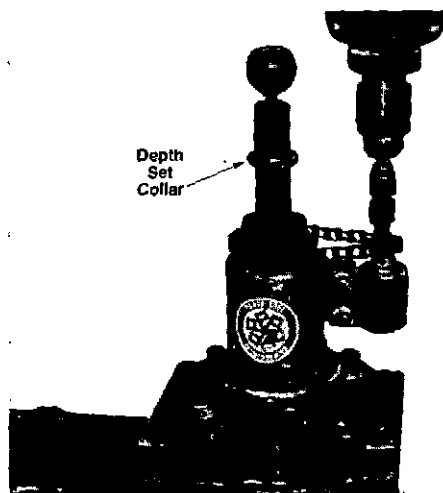

Fig. 1-27 (V50155). Install The Drill Onto The Boring Tool.
14. Put the drill on the drive shaft, Fig. 1-27. Cut the bore until the depth set collar on the drive shaft is against the top of the boring tool. The feed mechanism will disengage when it reaches the depth for which it was set.